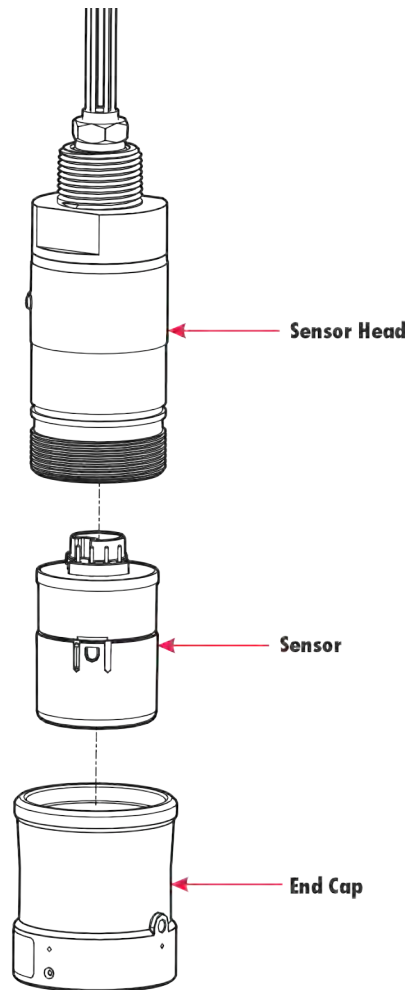

Figure 4-24: Meridian Detector Body Assembly
5. Insert Sensor1 into the sensor head, twist until it snaps into place and acknowledge via LCD. It self aligns in the sensor head, (see Figure 4-24: Meridian Detector Body Assembly).
NOTE: To remove a sensor, remove Meridian end cap and then just pull it straight down, (see Figure 4-24: Meridian Detector Body Assembly).